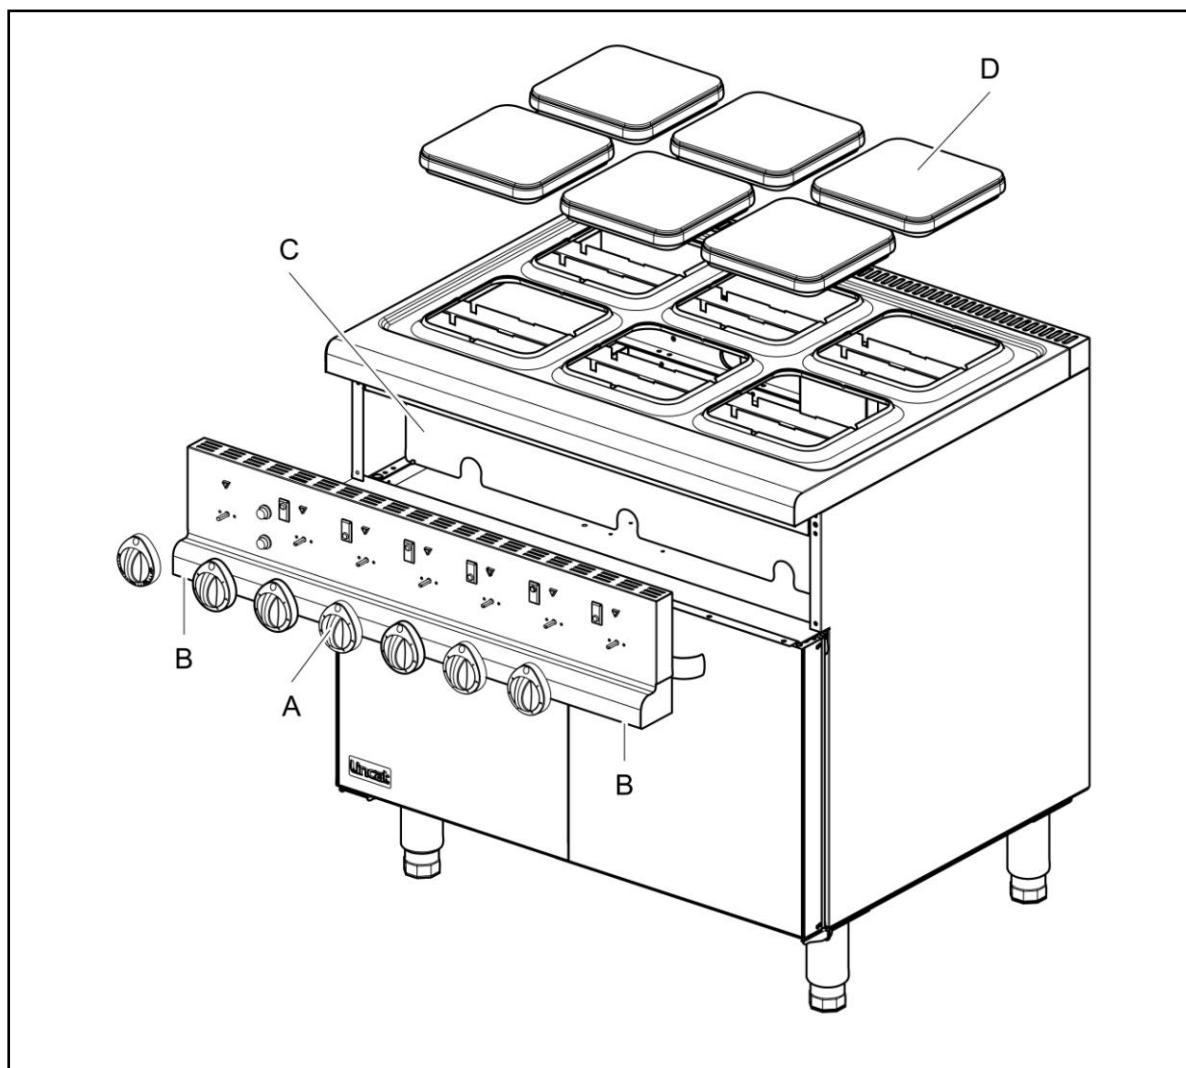

Fig 4
Replacement of some components requires removal of the fascia panel and heatshield (see Fig 4). Remove the control knobs (A) and all screws beneath the fascia (B). Be aware when lowering the fascia that electrical connections will still be made. When replacing heatshield and fascia ensure cables are not trapped.